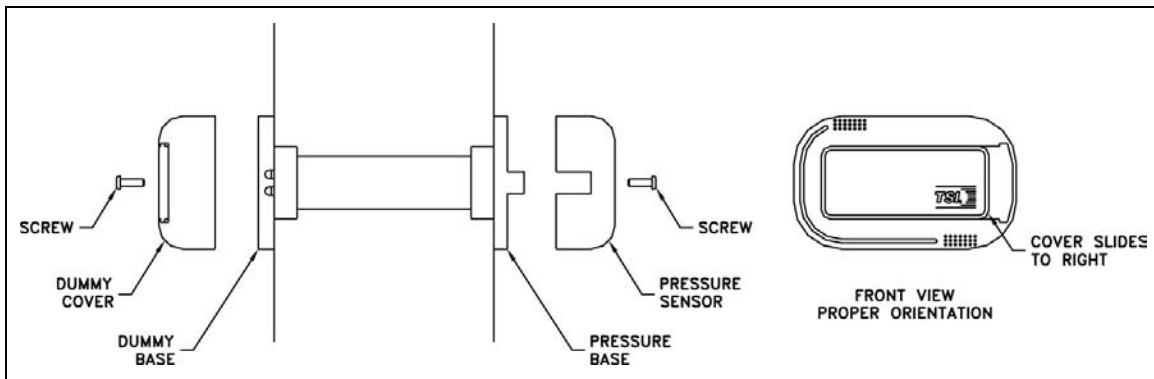

Figure 8: Pressure Sensor Mounting
7. From the side of the wall the sensor will be mounted, slide the sensor tube through the wall. Slide the dummy base over the end of the tube. Screw the pressure sensor base and dummy base to the wall (Figure 8).
10. Install and screw the pressure sensor and dummy cover onto the bases. Slide covers to the left to hide the sensor. Finished installation should look as shown in Figure 8.